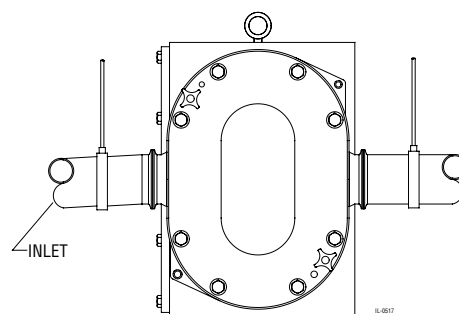

Figure 2
- Slope inlet piping up to pump to avoid air pockets (*Figure 2*).